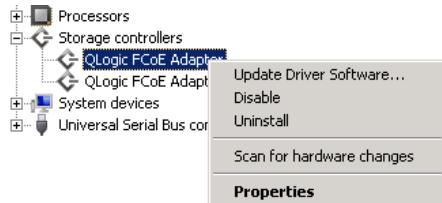

Figure 3-27. Updating an FCoE Driver for Windows 2008
- b. To update the driver, right click **QLogic FCoE Adapter**, and then click **Update Driver Software...** (Figure 3-27).